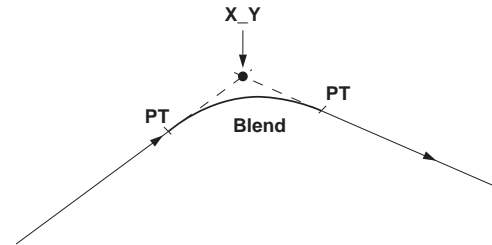

Figure 7-25
- X_Y ABS** the intersection of the LINE and the next LINE or ARC in the tool path (see Figure 7-25).